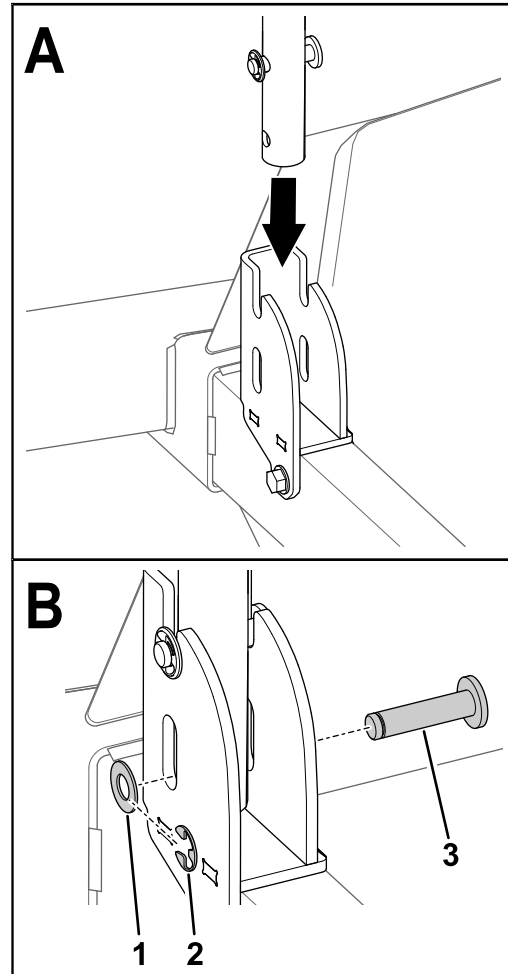

Figure 5
1. Align the lower hole in the assist handle with the closed slot in the assist-handle bracket as shown in Figure 5.
2. Assemble the grooved pin through the slot in the bracket and the hole in the assist handle (Figure 5).
3. Secure the pin to the bracket and handle with the washer (3/8 inch) and the retaining ring (Figure 5).